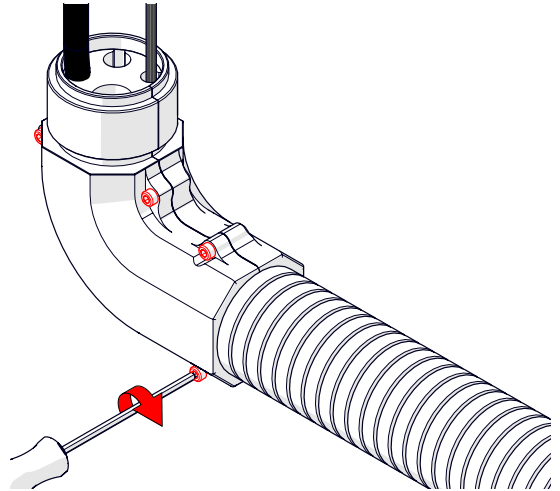

Fig. 86 - Tighten the four screws
8. Use the 2.5 mm hex driver to tighten the screws (Fig. 86).